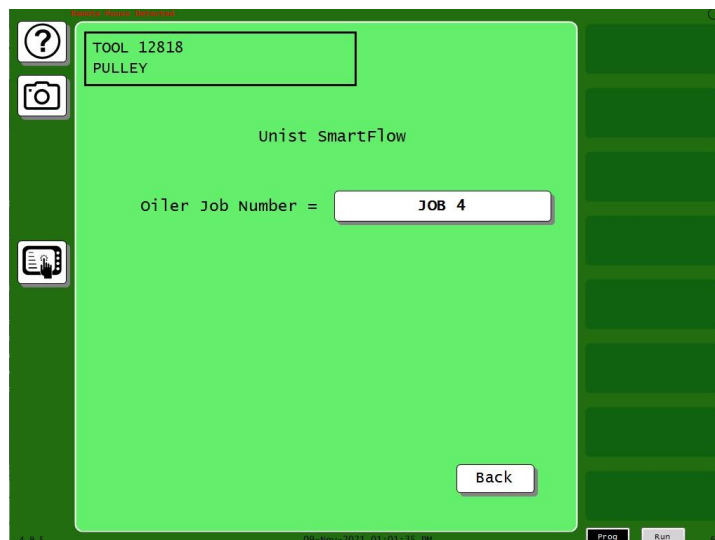

Figure 13. Unist SmartFlow Job Number Screen
2. The Unist SmartFlow Job number screen will display (see Figure 13), these job numbers are setup in the Unist system. This screen will tell the SmartFlow system which job to load for this tool.